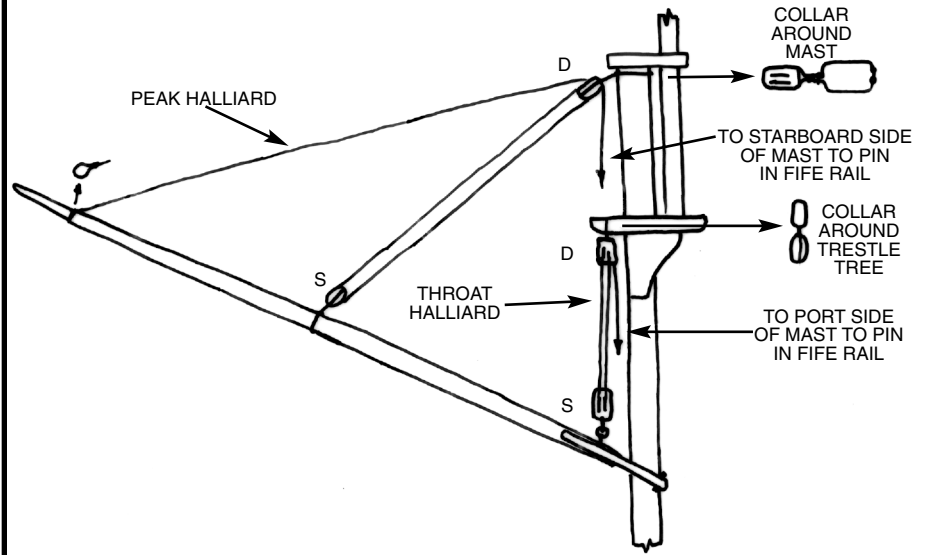

FIG. H-11 GAFF VANGS, BOOM TOPPING LIFTS & SHEET
Boom Topping Lifts, Gaff Vangs, & Boom Sheet - Figure H-11 illustrates these running lines. The topping lifts (44) are a pair of lines port and starboard. Quite a hefty rig but the mainsail would be quite heavy when the sail is furled.